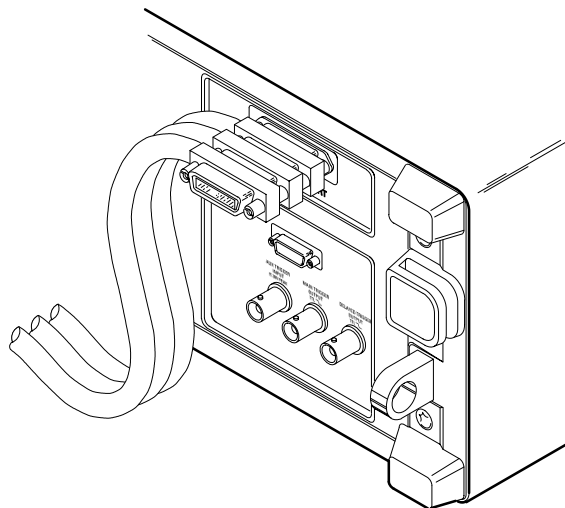

**Figure 3-12: Typical GPIB Network Configuration**
- Include only one cable path between devices on your network. (See Figure 3-12.) Do not create loop configurations.